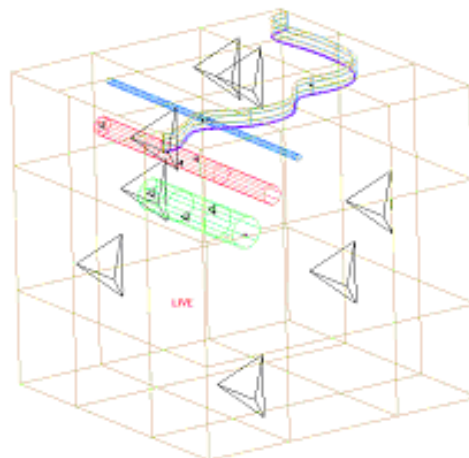

Figure 6. ICEM element sizing
6. **Set element sizes on Families.** At this point the sizes can be shown as in Figure 6 and adjusted.